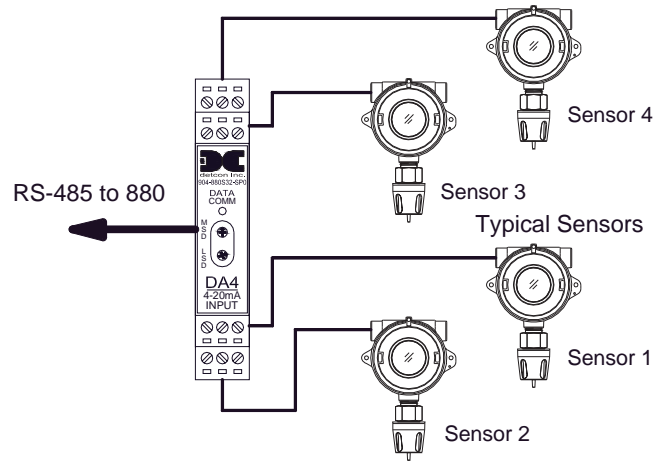

Figure 10 Typical Analog Sensor Wiring
1. For Analog Units (880A), communication is accomplished by using Detcon DA4 modules and the RS-485 Modbus™. The 4-20mA sensors are directly connected to the DA4 modules, while the DA4 modules are connected via the RS-485 Modbus™ to the 880 PLC (Figure 10). The correct setup of the DA4's is covered in Section 4.3 880 Setup.